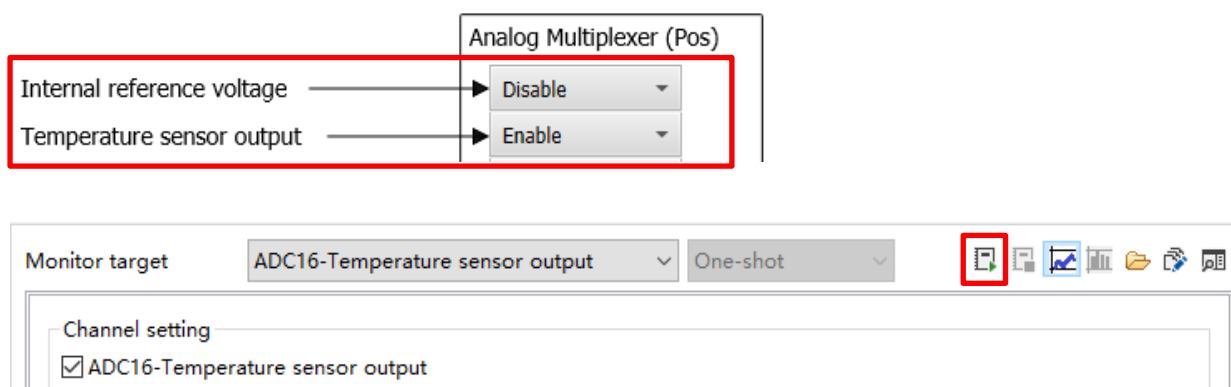

Figure 3-12 Temperature sensor output or internal reference voltage configuration (top) and “Start AFE Tuning” button (bottom)
- When tuning temperature sensor output or internal reference voltage (refer to the top on figure 3-12)
- Clicking “Start AFE Tuning” button (refer to the bottom on figure 3-12), the abnormal phenomena (3) might be seen.